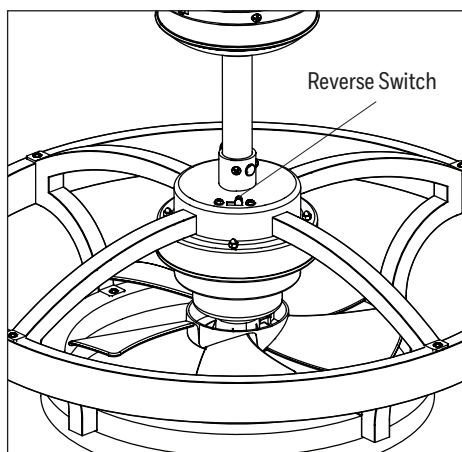

Figure 5.2
2. **Reverse Switch** - In warmer weather, push the reverse switch left, which will result in downward airflow creating a wind chill effect. In cooler weather, push the reverse switch right and the fan to low, which will result in upward airflow that can help move stagnant, hot air off the ceiling area. **Important:** Wait for the fan to stop before moving the reverse switch. The reverse switch must be set either completely left or right in order for the fan to function correctly. If the reverse switch is set in the middle position, the fan will not operate (Figure 5.2).